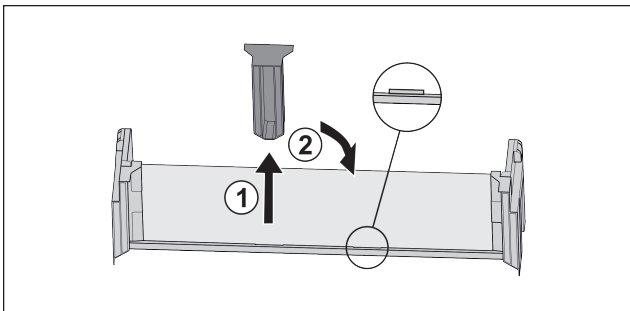

Fig. 64
- ▶ Pull off the middle holder Fig. 64 (1).
- ▶ Insert the middle holder in the second position Fig. 64 (2).